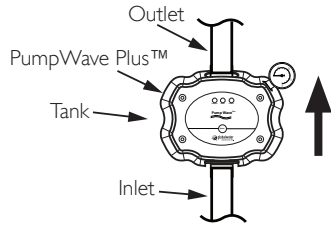

Fig. 1 Flow Direction
- Check if PumpWave Plus™ is installed as indicated in figures 1 and 2.
Always ensure that the PumpWave Plus™ is installed in a vertical position only. Failure to do so will prevent proper operation! See figure 1.
Before installation: Check that the direction of flow is the one indicated in figure 1 and that there are no outlets between the pump and PumpWave Plus™.